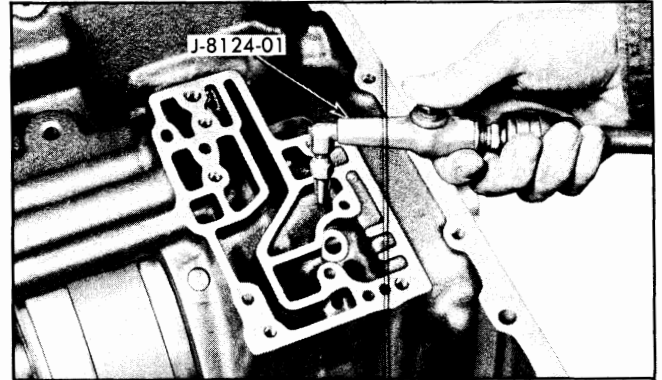

Fig. 7D-69 Cleaning Passages in Case
8. Remove intermediate shaft and clutch hub, including clutch hub thrust washer and backing washer from rear unit drum (Fig. 7D-73). (The backing washer may have remained with the hub.) **NOTE:** The rear clutch hub may be removed from the intermediate shaft, if replacement of shaft or hub is necessary, by removing snap ring retaining hub on shaft.